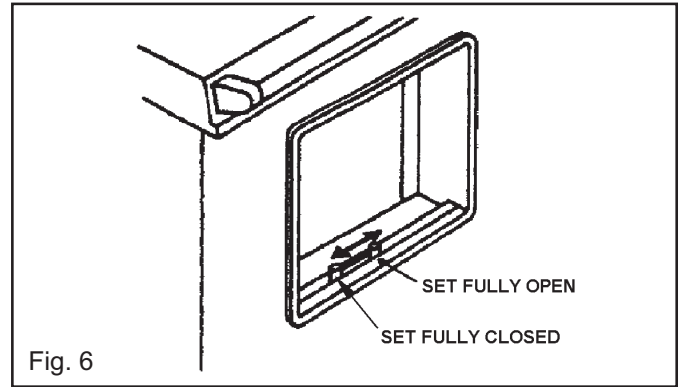

Fig. 6
- With fire established, open firebox door and fill firebox with fuel. Secondary air slide setting can be mid-position (Fig. 6). **Close and lock firebox door.** Push flue chamber damper back to position which has been found to give desired burning rate and heat to oven.